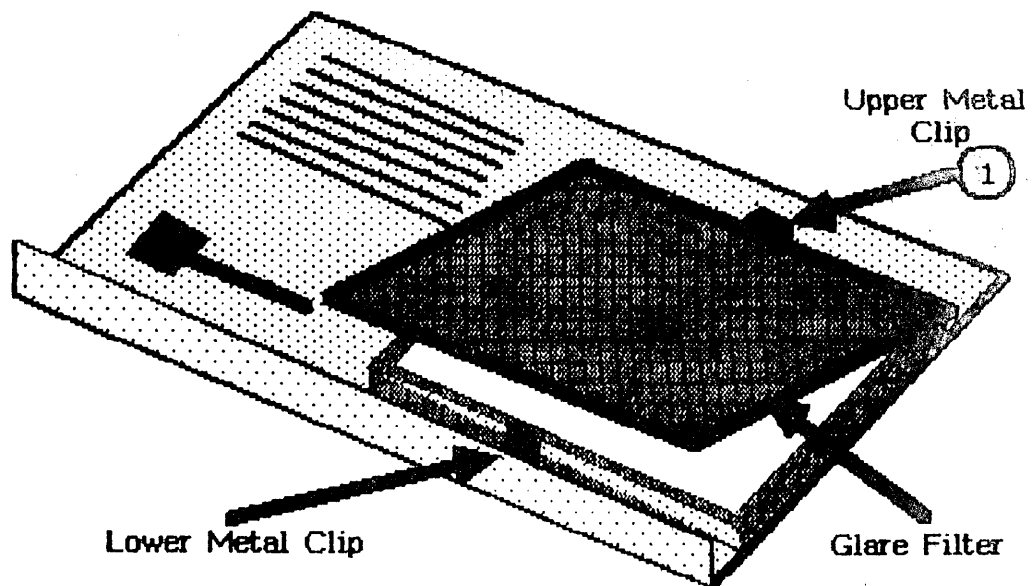

FIGURE 7
Hold the glare filter against the clip (see Figure 7, #1) along the upper edge of the front panel, at a 45 degree angle.
3. While pressing down on the frame (panel) at the upper clip, rotate the lower edge until the frame slides up under the upper clip (see Figure 7).